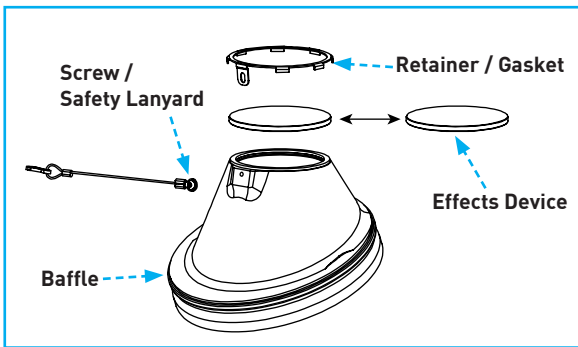

Fig.45
- C. To change lens / film, remove lens retainer and gasket by loosening and removing hex screw with the provided Allen wrench. Insert preferred lens / film in proper orientation, securing with lens retainer / gasket and replacing and tightening screw (Fig.45).